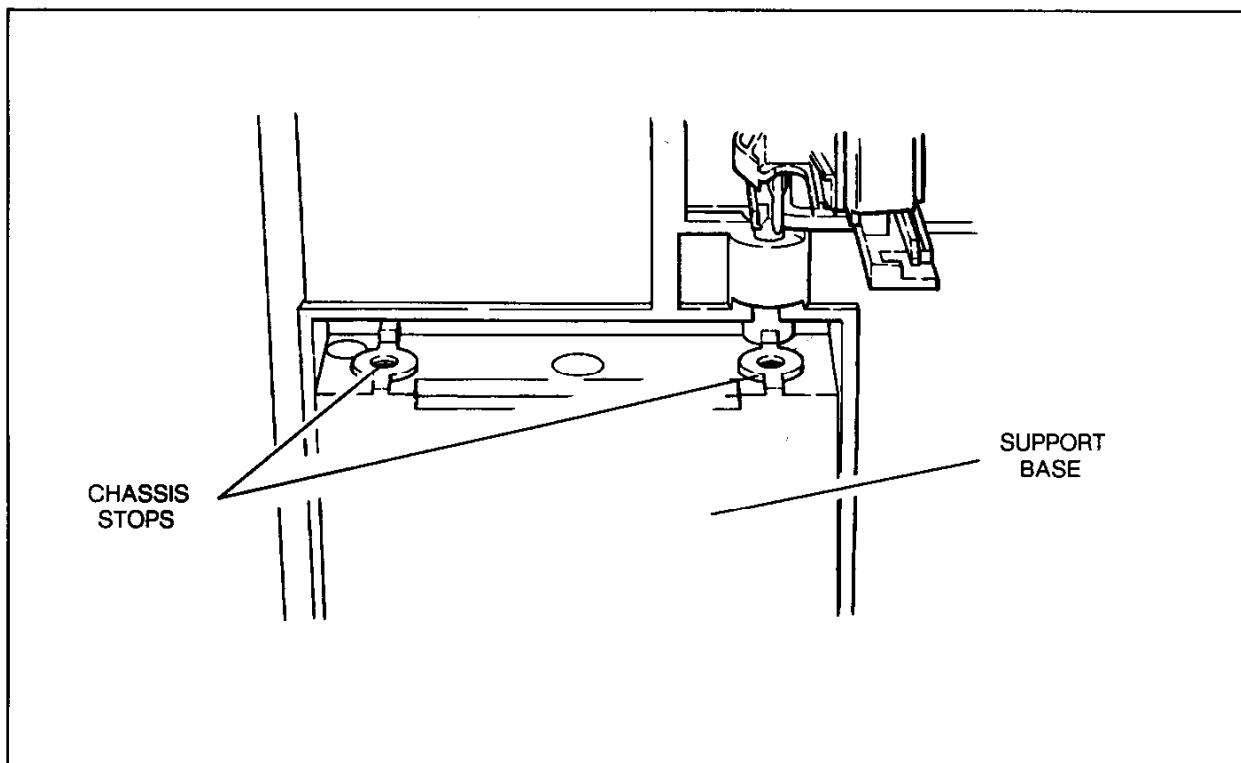

Figure 7-1. Carousel Support Base
- Ensure the carousel base is flat against the support base and chassis stops on the X-Y chassis. See Figure 7-1.